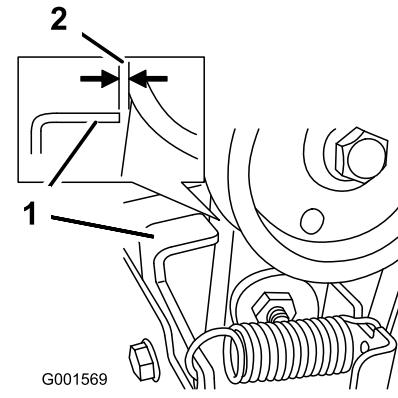

Figure 45
3. With the auger/impeller lever disengaged, ensure that the gap between the auger clutch assembly and the tab is 1.5 mm (1/16 inch) as shown in Figure 45.